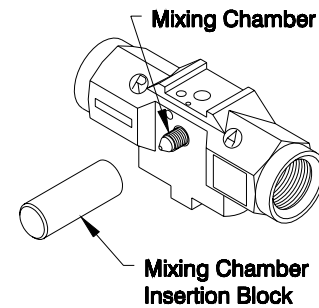

Figure 19. Mixing Chamber Installation
- 4. TAP CHAMBER INTO PLACE- With the gun block held in the palm of your hand, place the mixing chamber insertion block over the nose of the chamber so that it rests squarely on the chamber flange. Firmly tap the insertion block with the 4 oz. ballpeen hammer until the flange of the chamber is flush with the face of the gun block (See Figure 19).